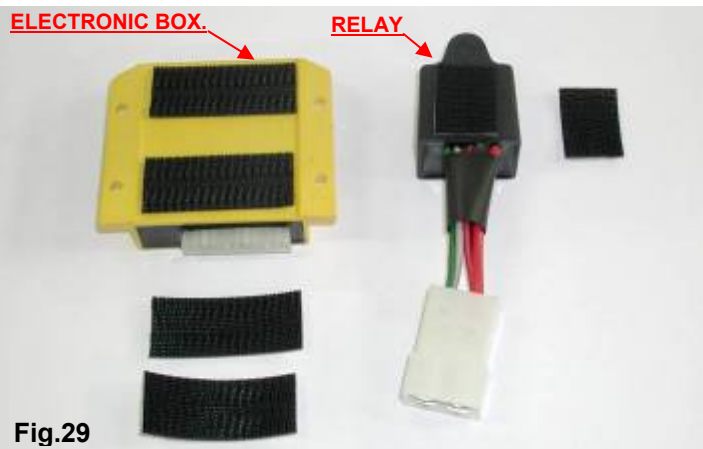

Fig.29
2.9.9 CUT THE DUAL-LOCK FIXING STRAP AND ATTACH IT TO THE REAR OF THE ELECTRONIC BOX, THE STARTER FUSE AND THE RELAY (SEE FIG.29).